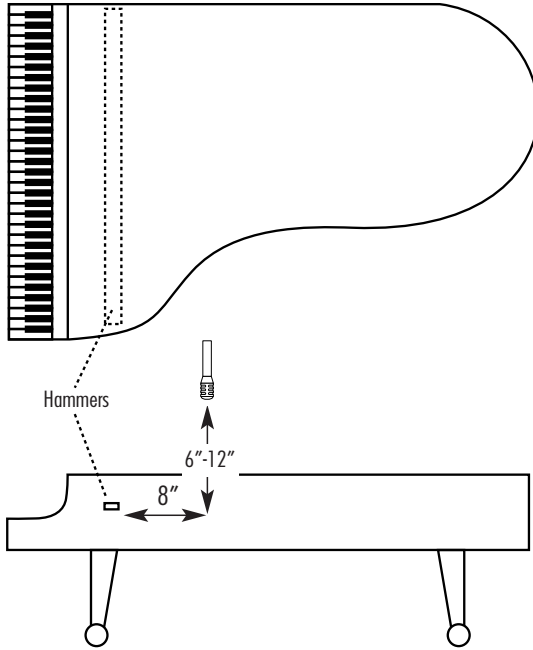

Figure 6
**Piano** – For a grand or baby grand, place a condenser microphone roughly 12 inches above the middle strings, and 8 inches from the hammers. The lid should be at full stick to allow enough clearance for the microphone. For an upright, place a similar microphone just over the open top, above the treble strings (see figure 6).